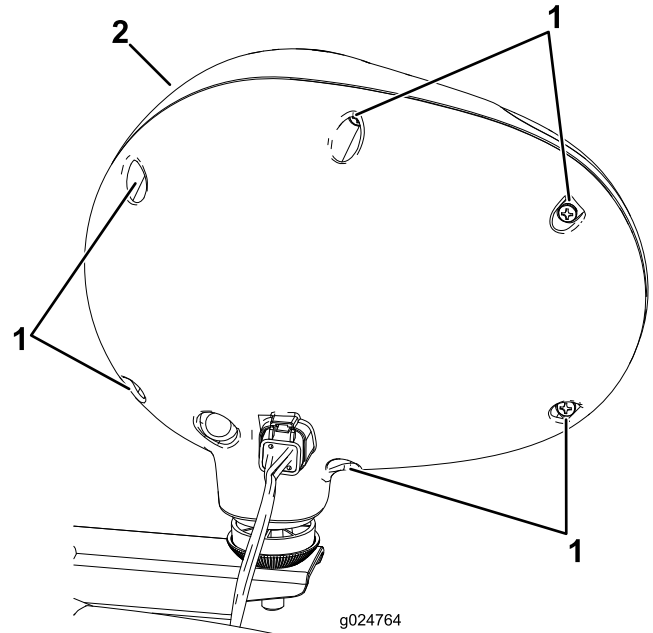

Figure 69
2. Remove the 6 screws securing the headlight (Figure 69).
3. Remove the headlight cover (Figure 69).